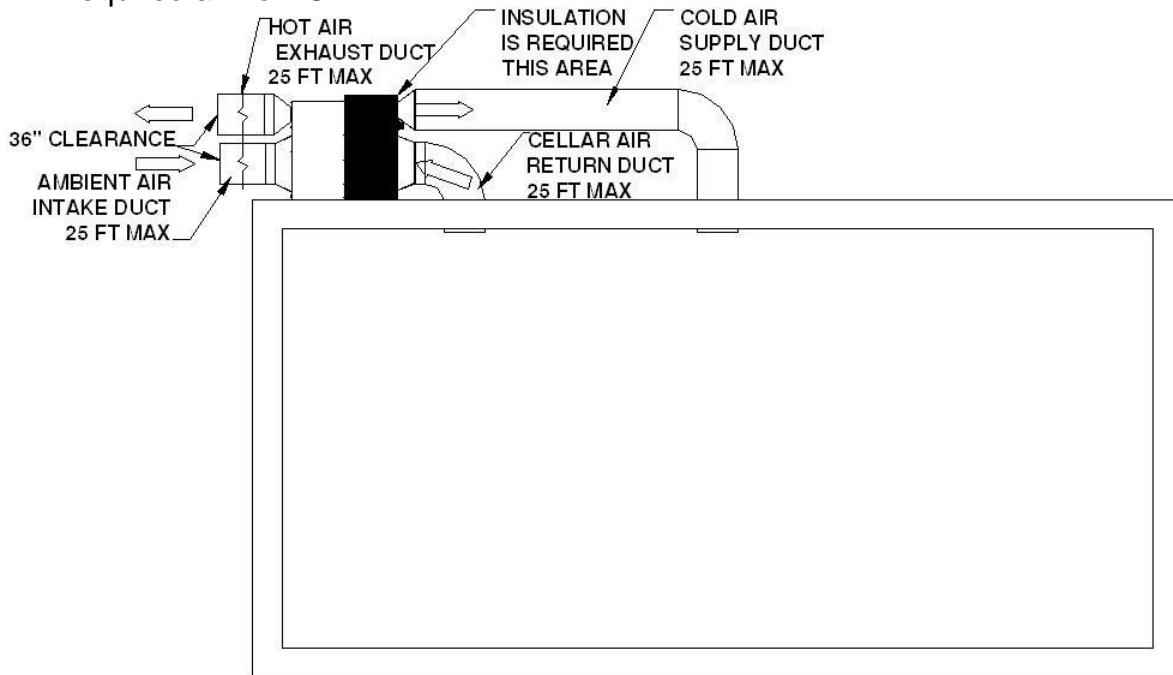

Fig. 4.14 Cold-air supply, cellar-air return, hot-air exhaust and ambient-air intake ducts
7. Remote installation with cold-air supply, cellar-air return, hot-air exhaust and ambient-air intake ducts (Fig. 4.14 & 4.15)